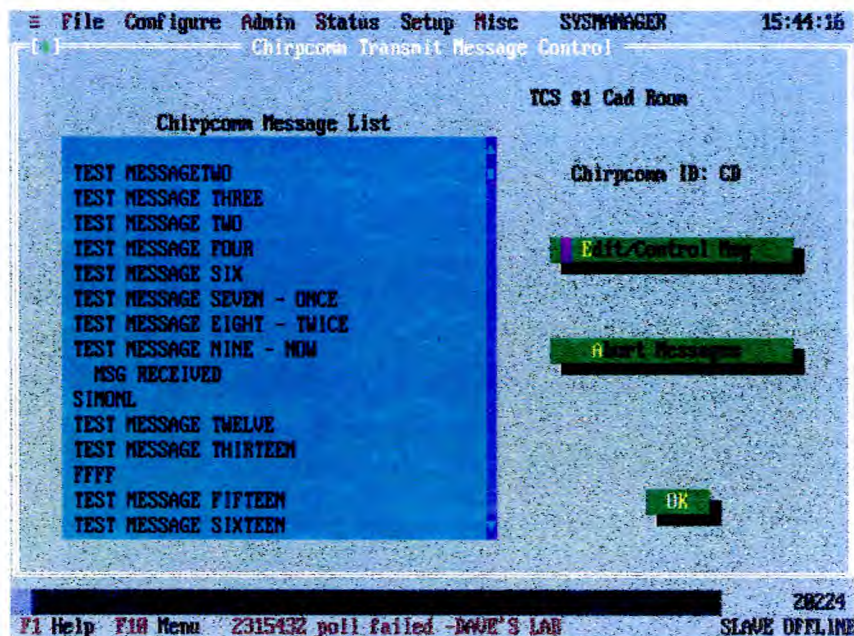
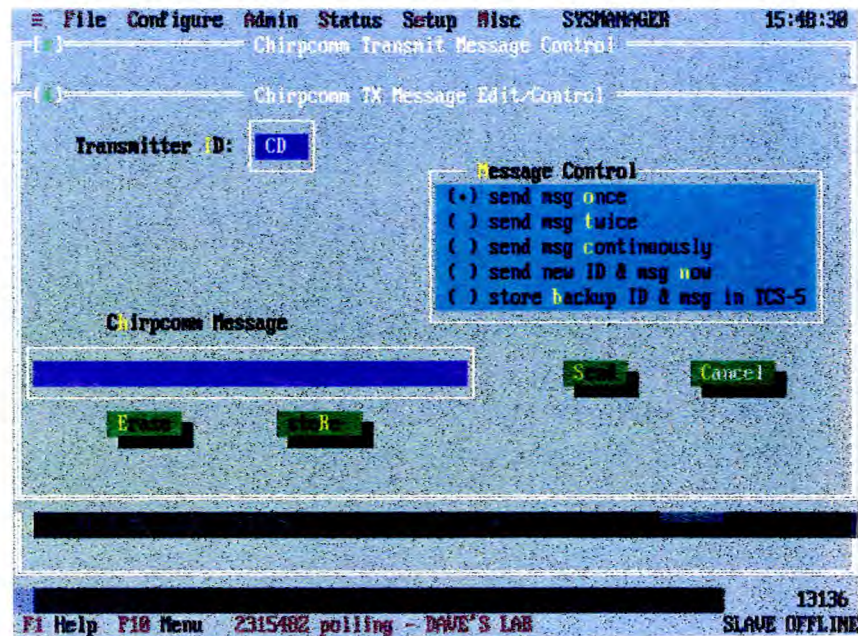

Fig 29
Fig 30
- 12 Screen (Fig 29) shows all the transmitter Chirpcomm messages stored in the terminal. A total of 16, 38-character messages can be stored in the terminal.
12.3 **EDIT/CONTROL MSG** : On the selected message (from screen Fig 29), working on display Fig 30, proceed as follows to modify or renew the message: